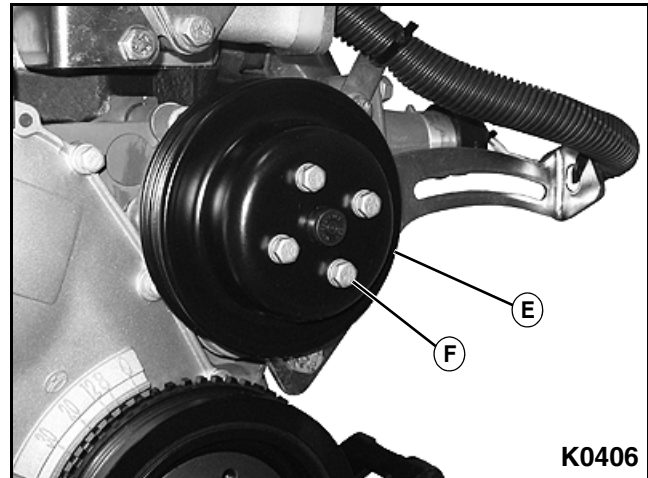

Figure 3-7
7. Install water pump drive pulley (E) to water pump with four mounting bolts, lock washers, and flat washers (F). Tighten bolts. **See Figure 3-7.**